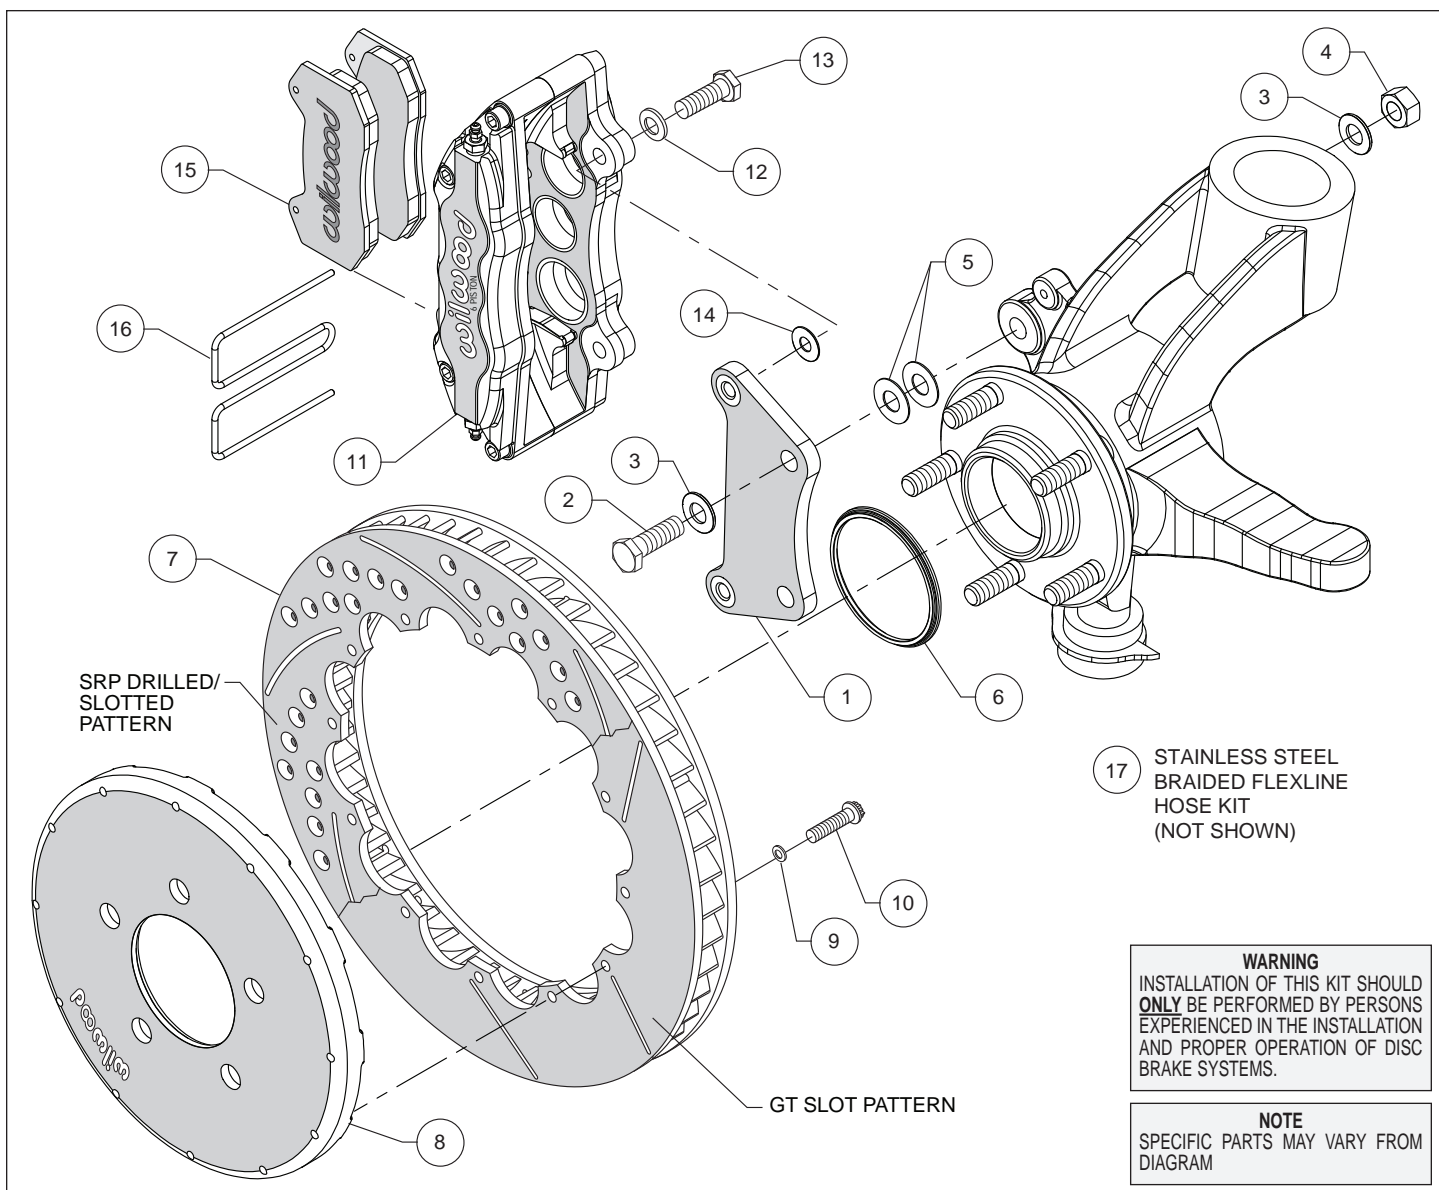
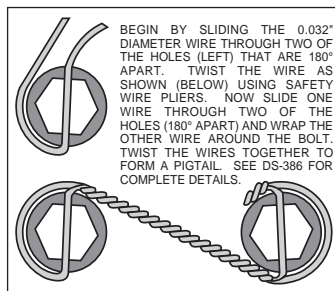

Figure 1. Typical Installation Configuration
Figure 3. Safety Wire Diagram
Assembly Instructions (numbers in parenthesis refer to the parts list and Figure 1 on the preceding pages):
- Orient the caliper mount bracket (1) as shown in Figure 1 and Photo 1, and install using bolts (2), washers (3), and nuts (4). Place two .033" thick shims (5) on each bolt between the bracket and caliper mounting bosses, Figure 1. Ensure that the flanged heads of the clinch nuts in the bracket are facing outboard, Photo 1. Temporarily tighten the mounting bolts. **NOTE:** The bracket must fit squarely against the mount bosses on the upright. Inspect for interference from casting irregularities, machining ridges, burrs, etc. Remove bolts one at a time, apply red *Loctite*® 271 to the threads and torque to 60 ft-lb.
- Orient the rotor (7) and the hat (8) as shown in Figure 1 and Photo 2. Attach rotor to hat using bolts (10) and washers (9). Using an alternating sequence, apply red *Loctite*® 271 to the threads and torque bolts to 155 in-lb. For an added measure of security, the bolts may be safety wired using standard 0.032 inch diameter stainless steel safety wire as shown in Figure 3. Please refer to Wilwood's data sheet DS-386 (available at www.wilwood.com/Pdf/DataSheets/ds386.pdf) for complete safety wire installation instructions.
- **NOTE:** This kit contains distinct right and left hand calipers that must be mounted in a specific direction, as described below. Mount the caliper (11) onto the caliper mounting bracket (1) using bolts (13) and washers (12), as shown in Figure 1. Initially place one .035" thick shim (14) on each bolt between the caliper and the bracket, Figure 1 and Photo 5. Ensure that the caliper is mounted so the largest pistons are at the rotor exit end of the caliper, in relation to the direction of rotor rotation. Temporarily tighten the mounting bolts and view the rotor (7) through the top opening of the caliper. The rotor should be centered in the caliper, Photo 6. If not, adjust by adding or subtracting shims (14) between the bracket and the caliper. Always use the same amount of shims on each of the two mounting bolts. Once the caliper alignment is correct, remove the bolts one at a time, apply red *Loctite*® 271 to bolt threads, and torque to 40 ft-lb.